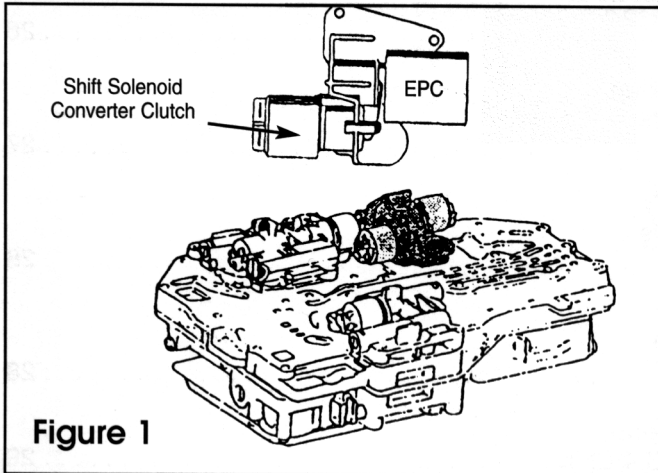

Figure 1
- Remove pressure control solenoid housing from valve body by removing three bolts (**Figure 1**).